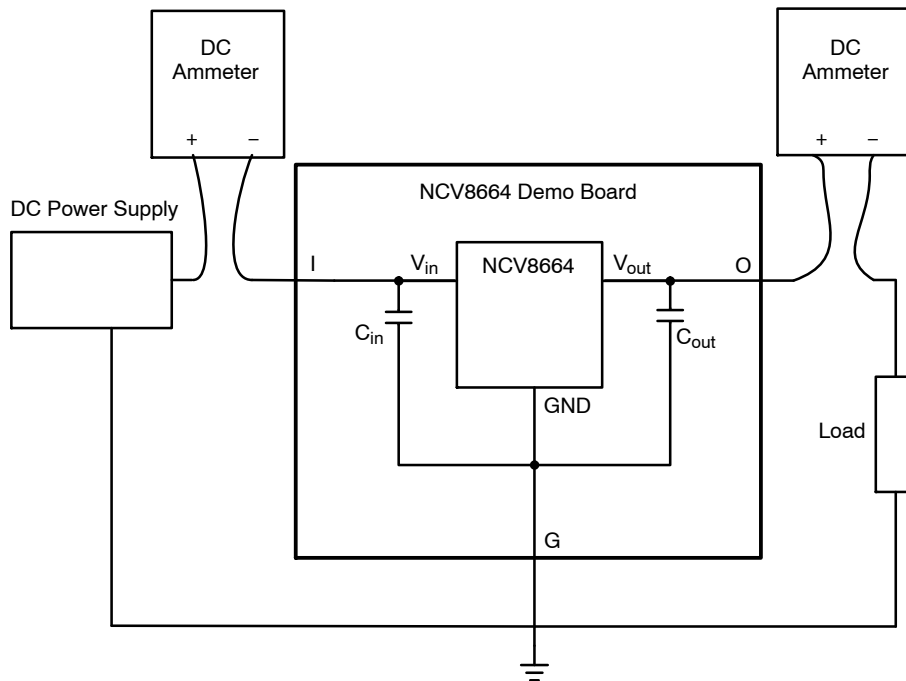

Figure 7. Quiescent Current Verification Setup
1. Connect circuit as shown in Figure 7.